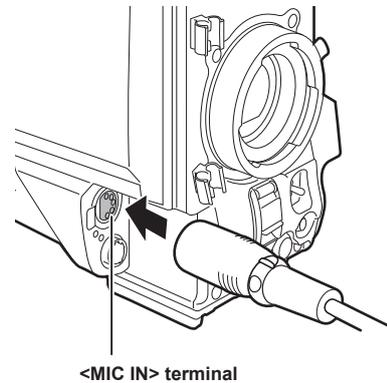

Fig. 3
- 3** Connect the microphone cable to the <MIC IN> terminal on the camera. (Fig. 3)